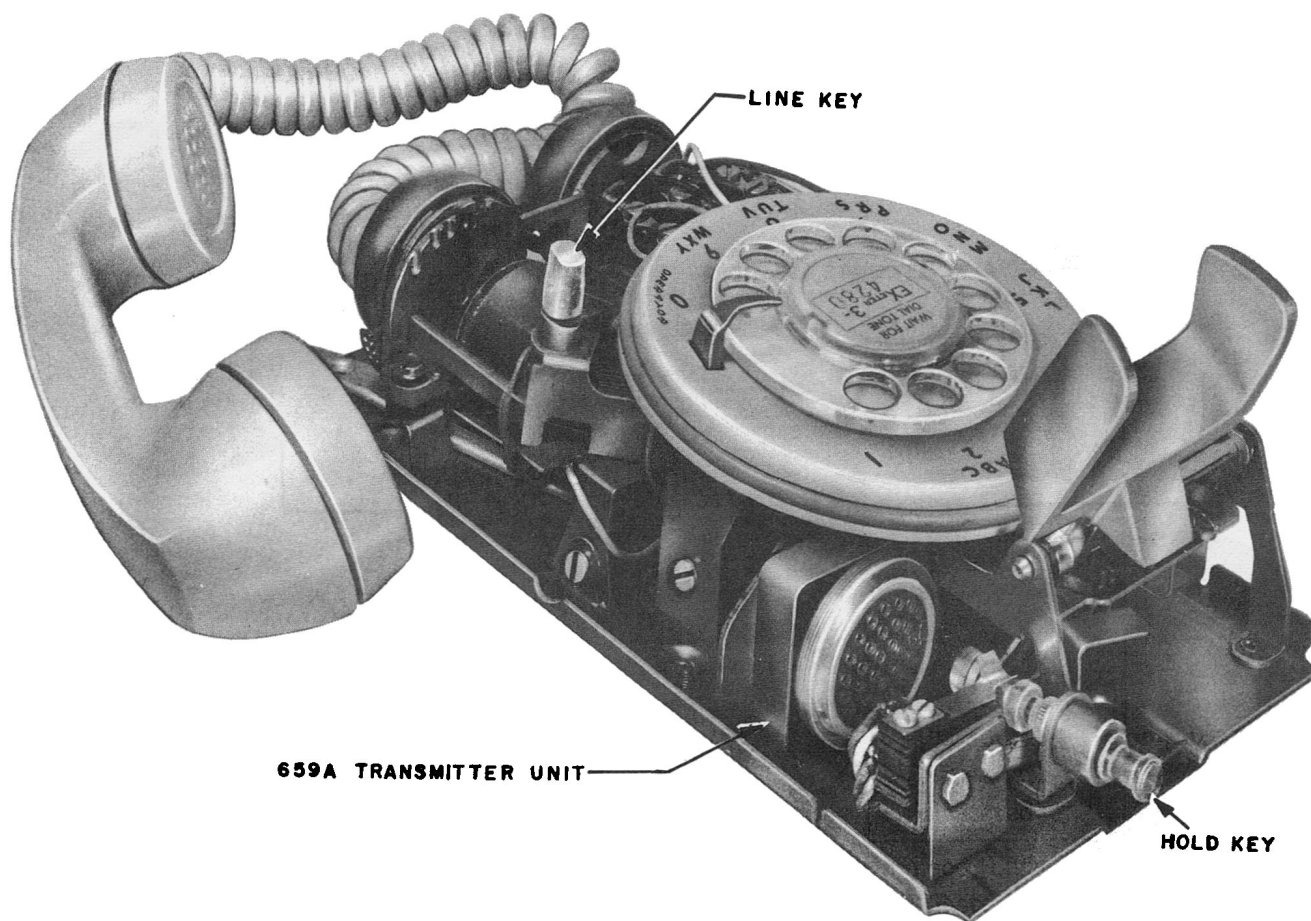

Fig. 2 — 659A Transmitter Unit Mounted in 558C/D Telephone Set
3.02 The 659A and 660A transmitter units are mounted in telephone sets as shown in Fig. 2 and 3.